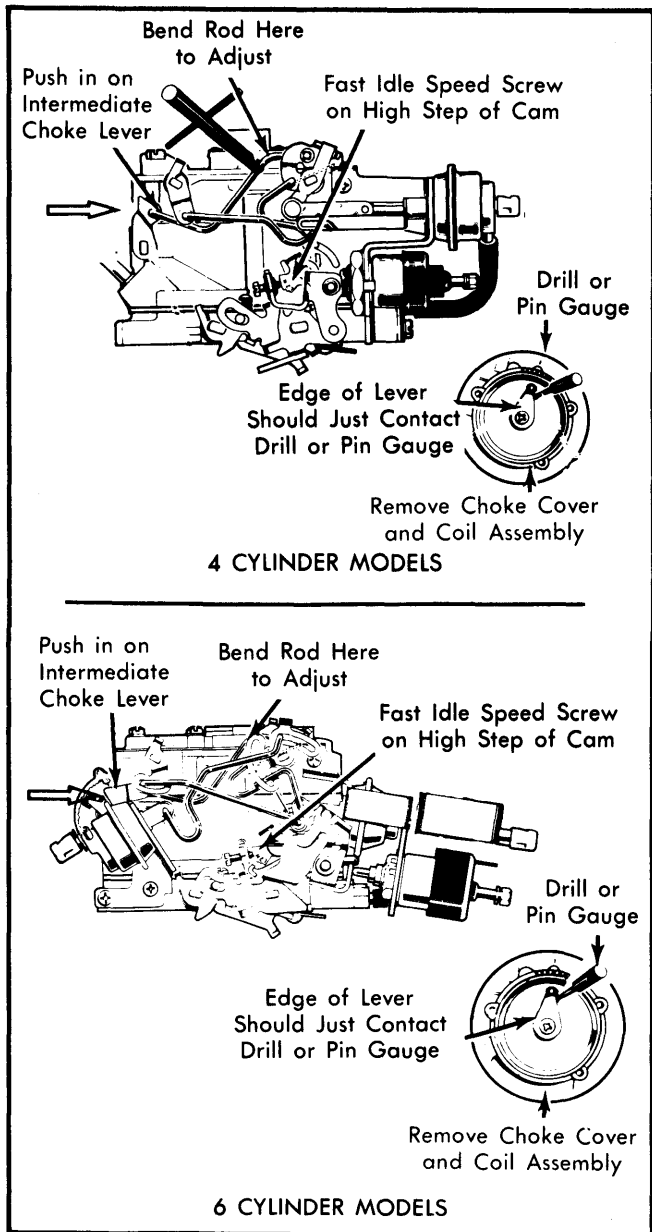

Fig. 4 Adjusting Choke Coil Lever
1) Remove rivets and choke thermostatic cover from choke housing. Place fast idle screw on high step of fast idle cam. See Fig. 4.